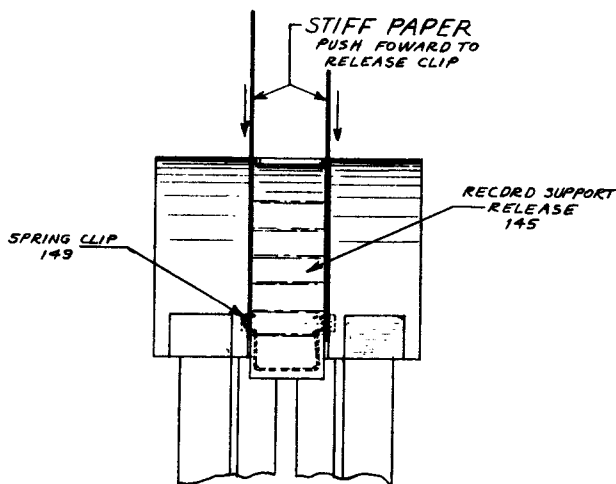

FIGURE 12. METHOD OF RELEASING CLIP ON RECORD SUPPORT RELEASE
1. Slide hinge (145) is secured with a spring clip (149). To unlatch the slide hinge: Place a folded piece of paper on both sides of the slide hinge, between the slide hinge and the slide cover (143) and pull the paper forward, simultaneously pulling the slide hinge upwards. See Figure 12.
2. Four machine screws secure the slide bracket (146) to the record support and slide cover (143).